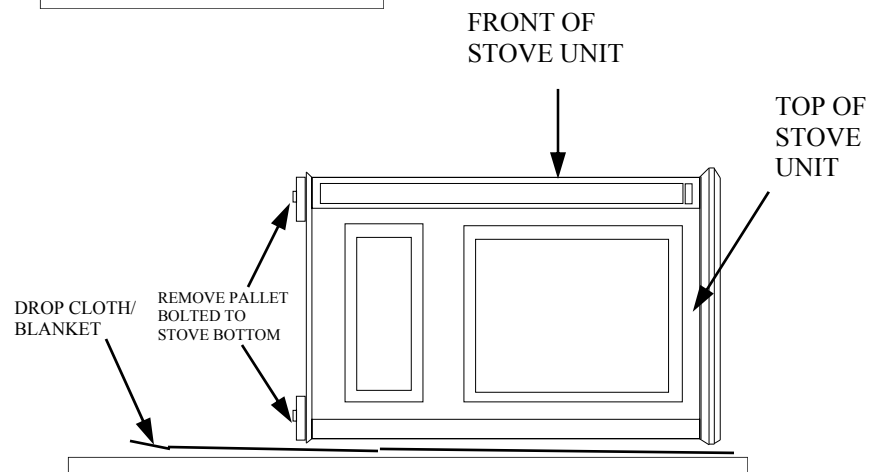

FIGURE 6 - LAYING DOWN STOVE ON SIDE
- (1) - Hardware kit bag with fasteners
6. Carefully lay stove body on back to attach bottom components to stove body (See Figure 6). Rest stove on drop cloth or blanket to avoid scratching stove edges.
7. Remove remaining pallet wood attached to bottom of stove body (See Figure 6). Use an adjustable wrench to remove bolts.